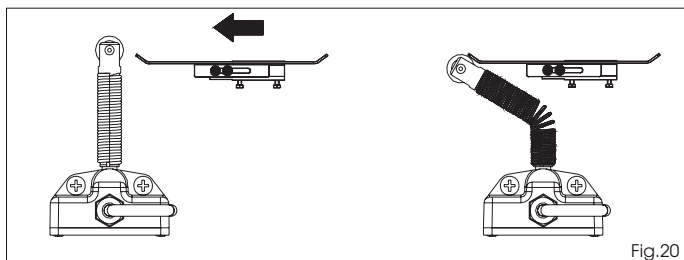

Fig.20
- The plate must activate the limit-switch on the profiled part as shown in figure 20.